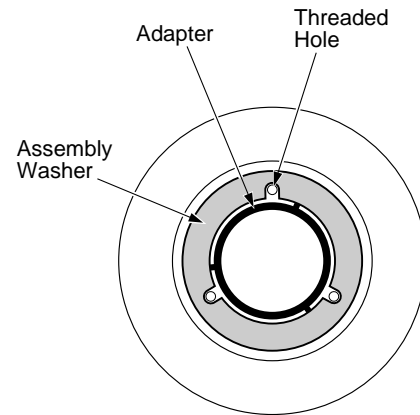

Figure 4d - Positioning Assembly Washer Slots over Threaded Holes
3. You will find a large assembly washer included with the fan. Place the washer over the adapter and canopy as shown in Figure 4d.
6. Attach the canopy tightly to the fan assembly with three assembly screws and lockwashers as shown in Figure 4d.